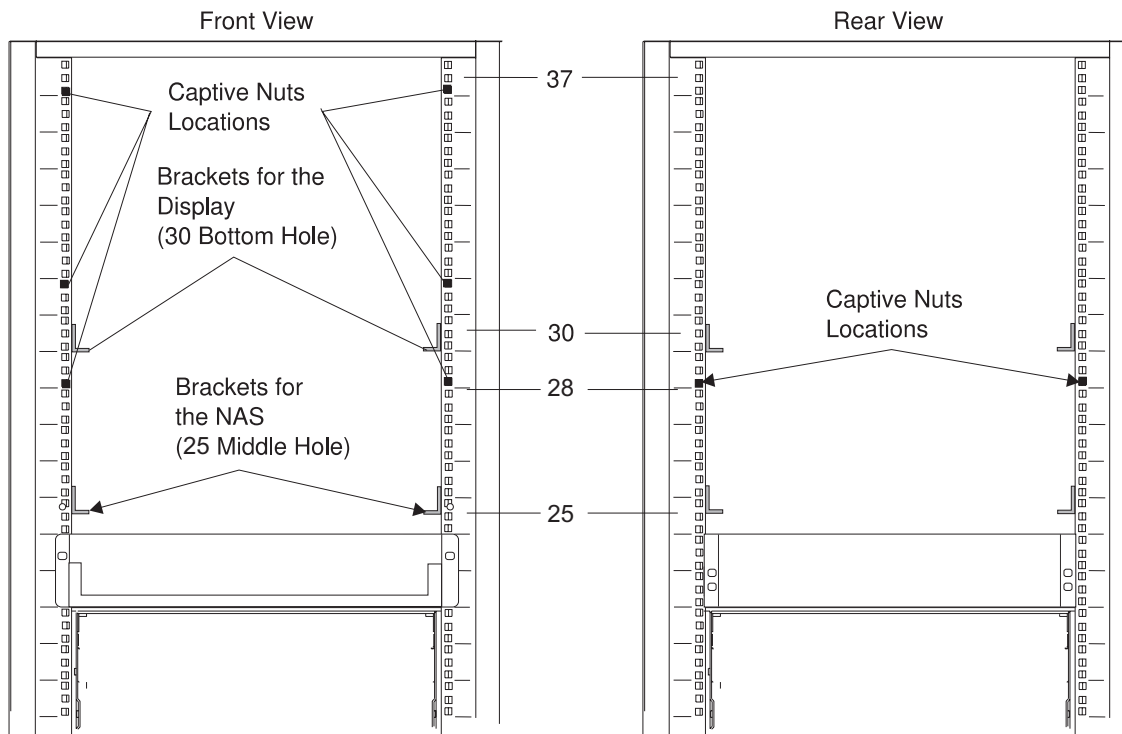
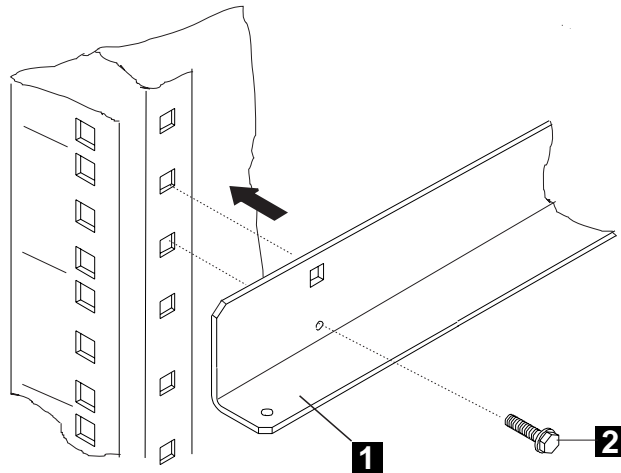
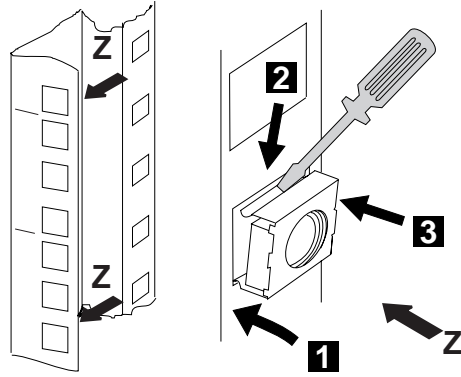

Figure 1-9. Brackets and Captive Nuts Positioning for the NAS with Earthquake Feature
Figure 1-10. Brackets Installation
Figure 1-11. Captive Nuts Installation
1. ____ Install the brackets (PN 43G3111) for the NAS if not already done. See Figure 1-9 on page 1-8 for bracket positioning and Figure 1-10 on page 1-8 for bracket installation.
2. ____ Install the captive nuts on the rack for installing the NAS and the display. See Figure 1-9 for the front and rear rack location, and Figure 1-11 on page 1-9 for installation.
1. ____ Install the brackets (PN 43G3111) to install the display (see Figure 1-9 on page 1-8).